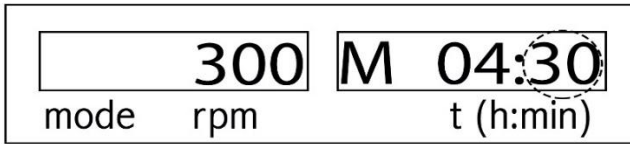

Figure 27: Setting the Minute
2. In this case, the minute's section becomes flashing and the letter M appears in the right display. (figure 27)